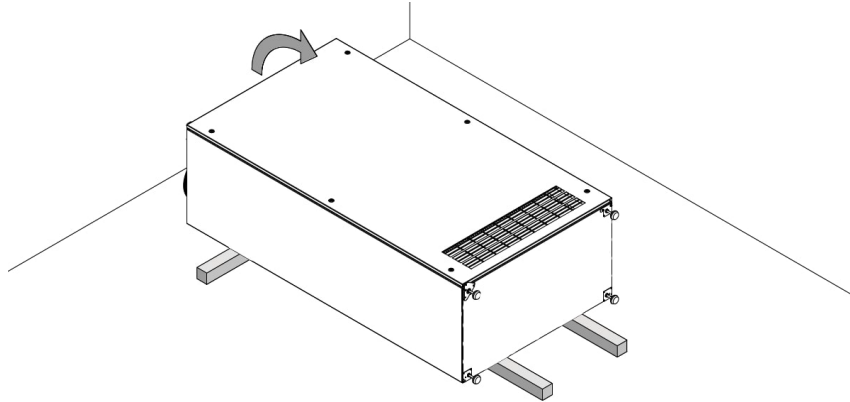

Figure 4: Place laths/battens/blocks of wood before lifting the unit
1. Before lifting the unit into an upright position place some laths/battens/blocks of wood as depicted in Figure 4. Without this, the height-adjustable feet may break or deform once the unit is lifted. Make sure the feet are as short as possible.